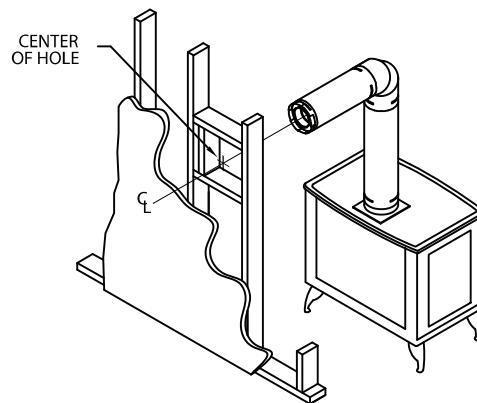

Figure 6
(2) Horizontal runs of vent pipe must be supported to prevent any downward sags. Horizontal pipe sections should be supported at least every 4-feet. Wall Straps can be used for this purpose. Alternatively, plumbers tape or other suitable noncombustible material can be used to support the vent pipe.
(3) DirectVent Pro venting requires no sealant, unless specifically required by appliance manufacturer.
Step 3. With the Appliance Adaptor and Pipe Section attached to the appliance, slide the appliance into its correct location, and mark the wall for a square hole of the appropriate size. Refer to **Table 1, page 8** for the correct size square opening unless otherwise specified by the appliance manufacturer's clearance requirements. The centerline of the pipe should line up with the center of the square hole (**Fig. 6**). Cut and frame the square hole in the exterior wall where the vent will be terminated. A Wall Thimble or Wall Firestop may be required by the appliance manufacturer as additional thermal protection for the wall. If the wall being penetrated is constructed of noncombustible material only, i.e. masonry block, brick, or concrete only, a hole with zero clearance to the vent